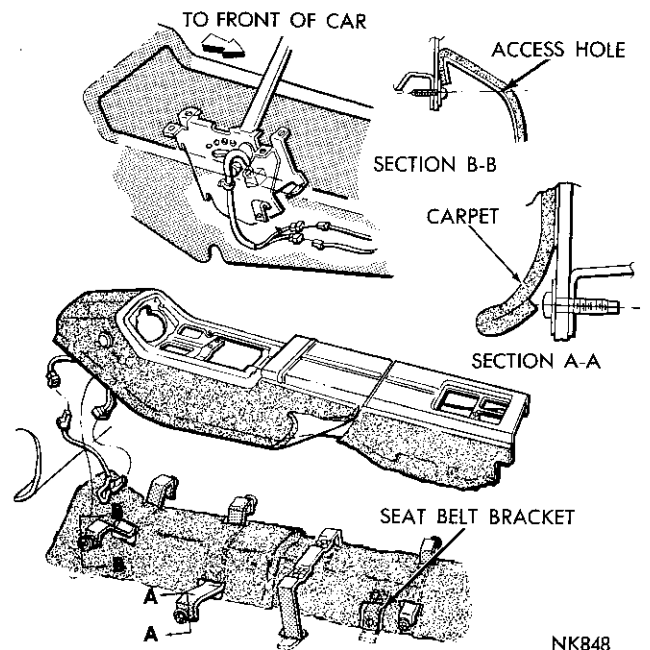

Fig. 25—Console Side Mounting Brackets
- (1) Raise the console lid and remove the two screws and washers attaching the console to the floor brackets.
- (2) On manual floor mounted transmissions, loosen the screw and washer, left side only, through the slit and access hole in the carpet on the console (Fig. 25) (Section B-B).
- (1) Guide the console over the shift lever and connect the backup lights, tachometer and body wires to their respective connectors.
- (2) Lift the sides of the carpets on the console to expose the slots in the console (Fig. 25) and position the console on the mounting screws.
- (3) Tighten the screws securely and install the two screws and washers attaching the console to the floor brackets.